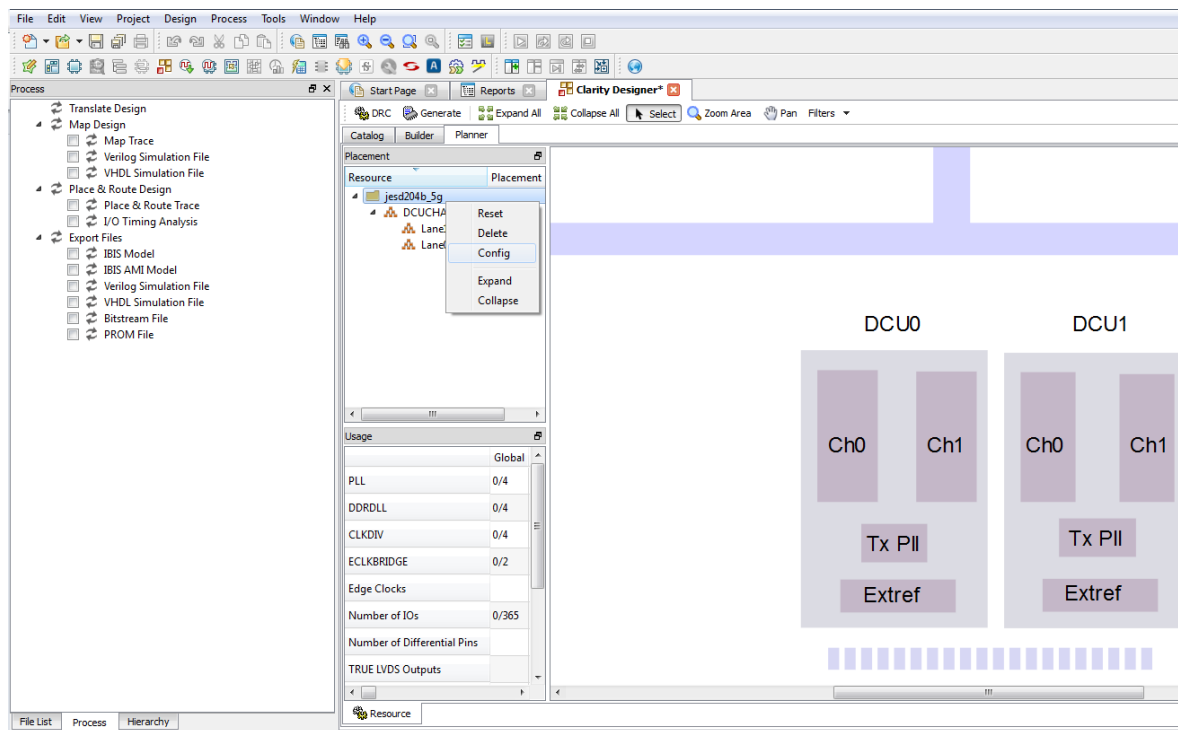

Figure 4.11. IP Regeneration in Clarity Designer
1. In the **Builder** or **Planner** tab, right-click the IP instance to be regenerated and select **Config** in the menu as shown in Figure 4.11.